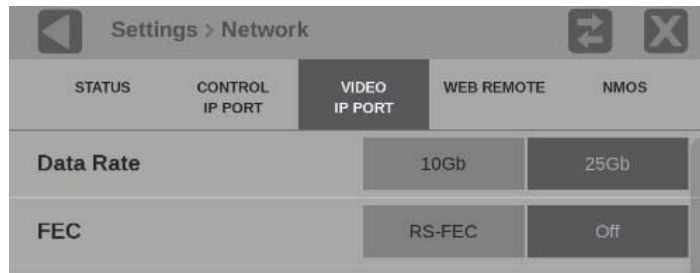

Figure 40: VIDEO IP PORT submenu
3. Select **VIDEO IP PORT** tab to open the submenu. (See Figure 40.)